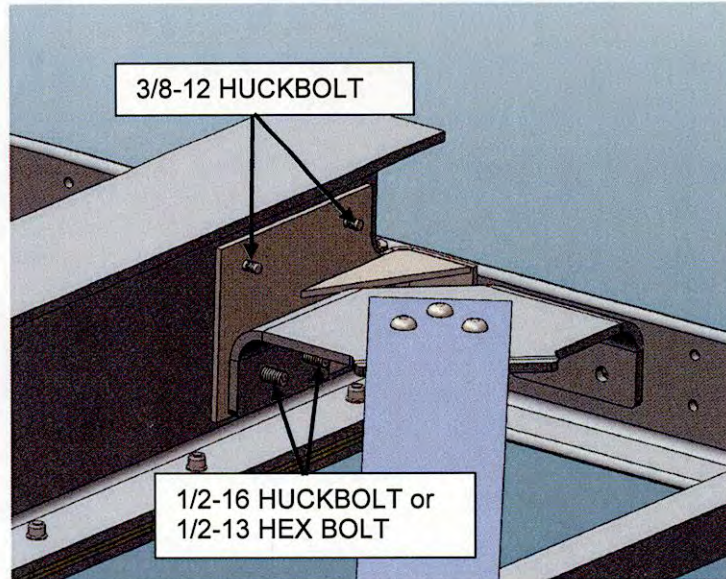

Figure 15
19. Place the new beam end brackets in their proper location (see Figures 15 below). Insert fasteners through all existing holes to insure that all parts line up properly and to hold them in place (Figures 15 and 16). If 1/2 Huckbolts are not available as shown in Figure 15, use hex bolts. Drill through the top two holes of a bracket and through the beam. Insert 3/8-12 Huckbolts and secure with collars at these hole locations. DO NOT secure the other four bolts that are in the brackets yet.